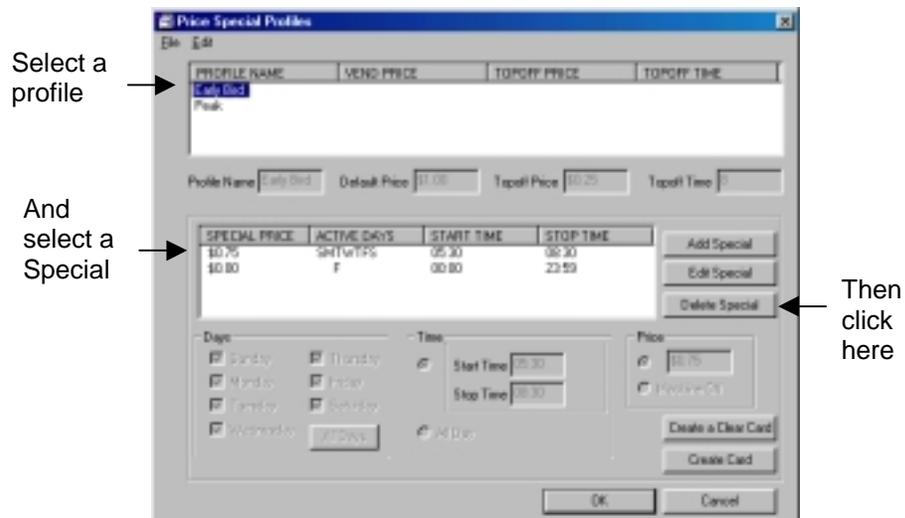

Figure 8.25 Deleting a Special
1. Select the Profile containing the Special to delete from the Profiles List Window (Figure 8.25).
2. Select the Special to delete (Figure 8.25).
3. Click the Delete Special button (Figure 8.25).